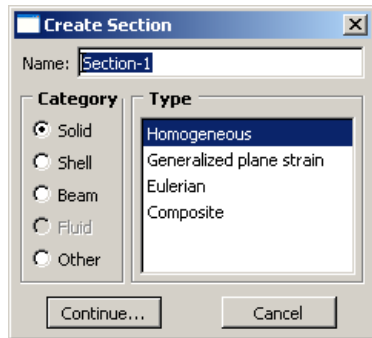
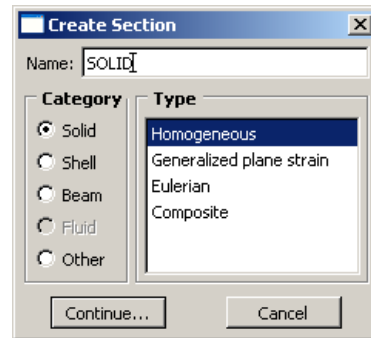

Figure 8a. Create Section Dialog Box
Figure 8b. Create Section Dialog Box (SOLID)
- To create a solid section in Abaqus, double click **Sections** in the model tree and the **Create Section** dialog box will appear (Figure 8a). Enter a **Name**: for the section (SOLID), and ensure **Solid** is selected under the **Category** Tab, and **Homogeneous** under the Type tab. Your **Create Section** dialog box should look identical to that in Figure 8b.